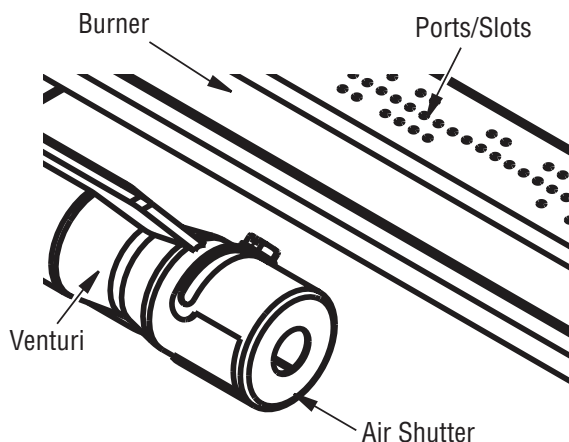

Figure 30 - Injector Holder On Outlet Burner Tube
2. Inspect burner, air shutter and orifice for dust and dirt (see Figure 30).